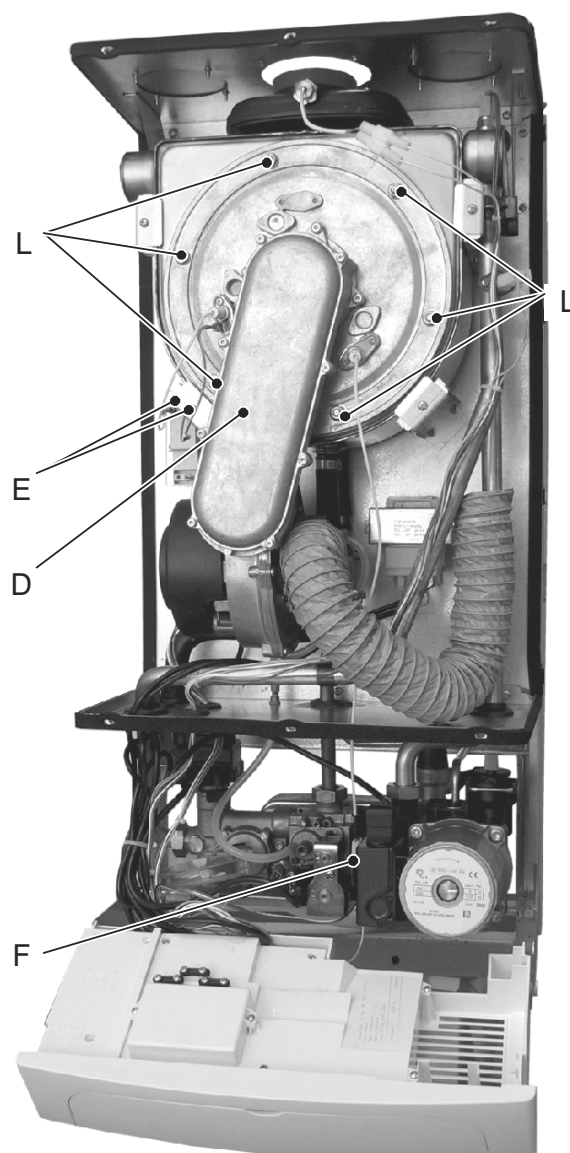

Fig. 8.5
To remove the burner–fan group D (Fig. 8.5):
- 3 Disconnect the connectors of the ignition electrodes E and detection electrode F (Fig. 8.5).
- 8 Remove the nuts L (Fig. 8.5) and the burner–fan group D.